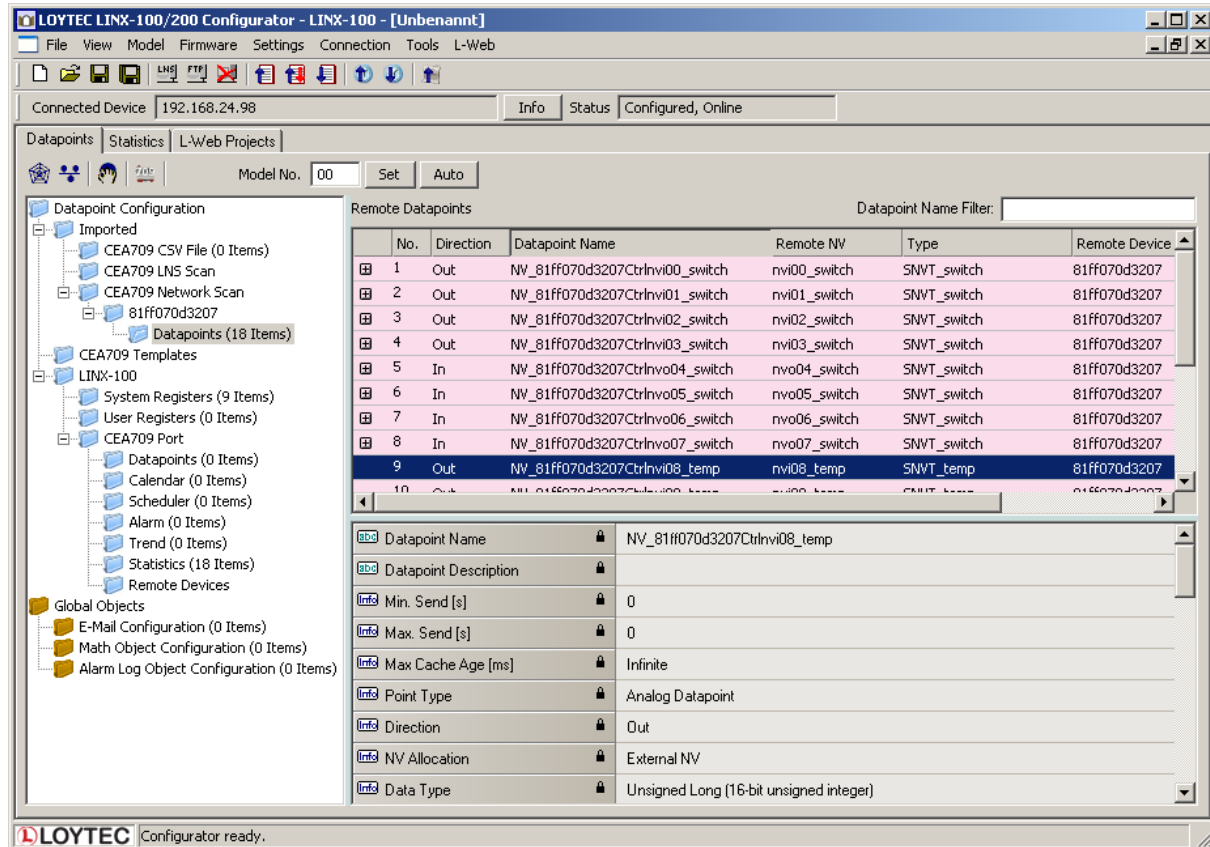

Figure 147: CEA-709 network scan results.
9. Then click the button **Scan**. This scans the NVs on the selected device and adds them to the CEA709/852 Network Scan folder as a separate sub-folder for the device as shown in Figure 147.